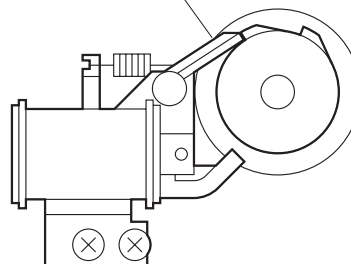

Figure 2
4. Remove the two screws securing the Exchange Solenoid to the Exchange Bracket and remove the Solenoid (Figure 2).
Make sure the Solenoid arms rest on the Cam as shown in Figure 2.